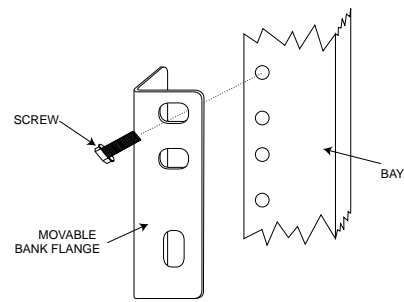

Figure 2. Chassis Mounting
3. Align the flange mounting holes on each side of the chassis with the bay mounting holes, and secure with proper screws and washers (see Figure 2).